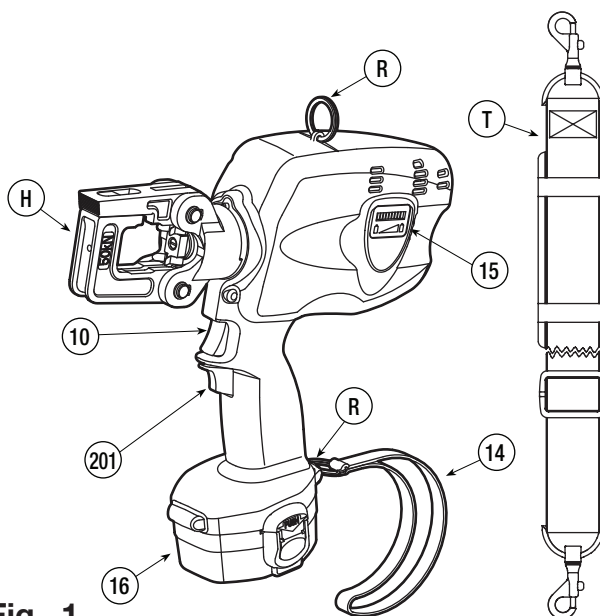

Fig. 1
PREPARATION (Refer to Figs. 1, 2 & 3)
The tool can be easily carried using either the handle or shoulder strap (T) attached to the rings (R), see Fig. 1 on page 2.